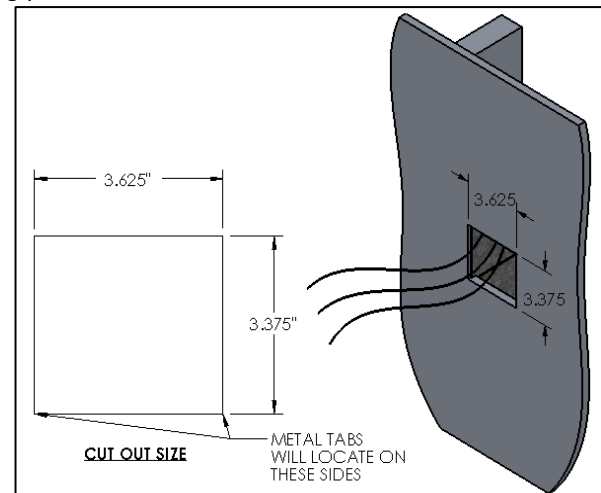

FIG. 17- J-BOX ASSEMBLY AND WALL CUT OUT
8. Attach the desired ceiling covering and finish accordingly as shown in FIG. 17.